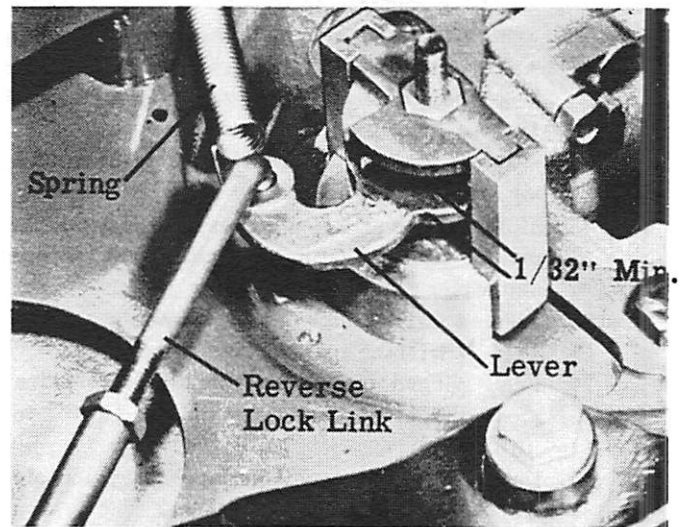

Figure 10. Reverse Cam Adjustment
1. Before placing engine in test tank, adjust reverse cam (if necessary) by actuating self-locking nut on inside bottom cowl underneath lower carburetor. (Figure 10) Adjustment of this nut secures reverse locking assembly over the tilt pin.
2. (Bottom cowl lever is positioned to give 600- to-800 RPM in reverse.) (Figure 10) This will prevent engine from kicking up in case of improper initial adjustment.